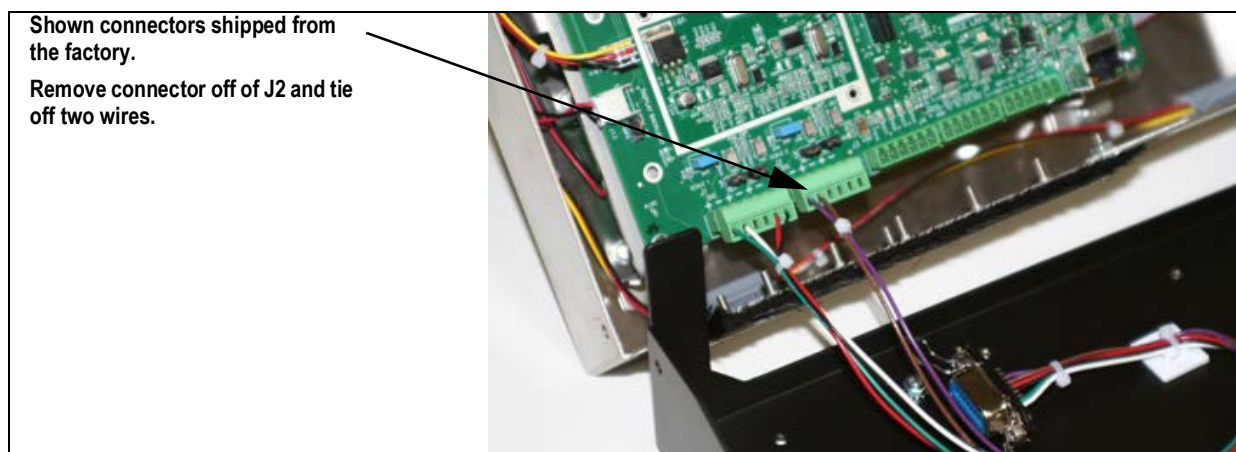

Figure 2-8. J2 Connector Location
3. Plug into the J2 connector on the CPU board (Figure 2-8 on page 10).